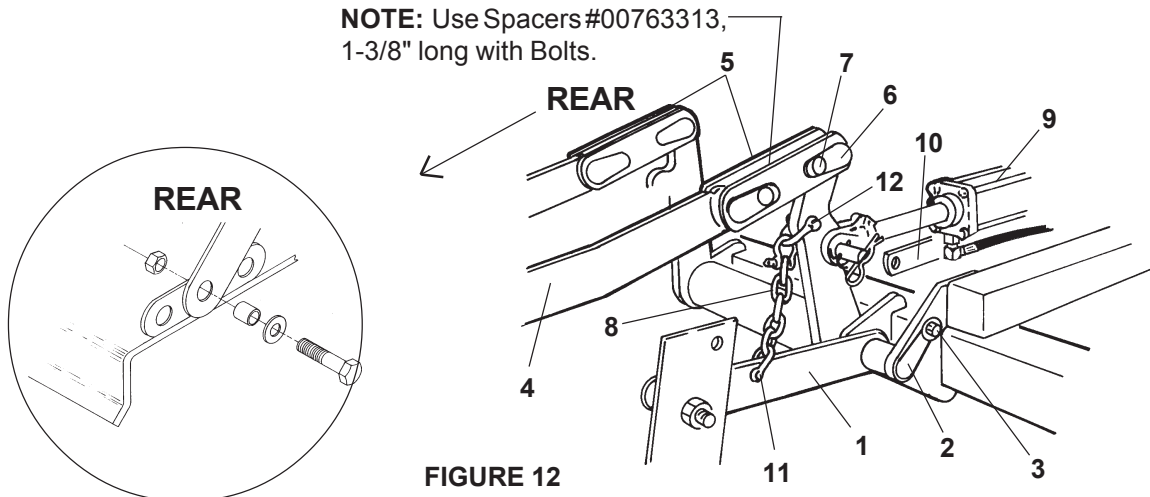

FIGURE 12
Install bushing in A-Frame Brace (4) and attach to the Rear Mower in the center hole of bracket on Gearbox mount plate. Retain with 1/2" x 1-1/2" bolt, flatwasher, and locknut. Attach the A-Frame Link (5) to the Rear Lift Frame by sandwiching between Toggle Links with Pins (6). Secure with 3/8" x 3" bolts (7), flatwashers, and locknuts. Attach the Lift Chain (8) to the Lift Arms and Rear Lift Frame. Attach the Rear Cylinder (9) to the Lift Frame with Pin and Cotter Pin. Attach the Rear Lock-up Bar (10) to the Front Cylinder Pin, retain with cotter pin, and to the Rear Cylinder Pin, retain with Clip Pin. **Figure 12.**